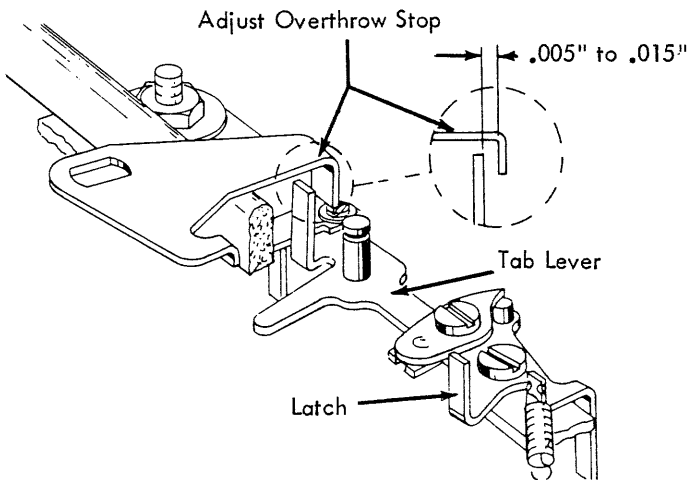

FIGURE 171. Tab Lever Overthrow Stop
11. Tab Lever Overthrow Stop (Early) (Fig. 171) - Adjust forward or back so that .005\" to .015\" clearance exists between the lug of the tab lever and the overthrow stop when the tab lever is latched to the rear.